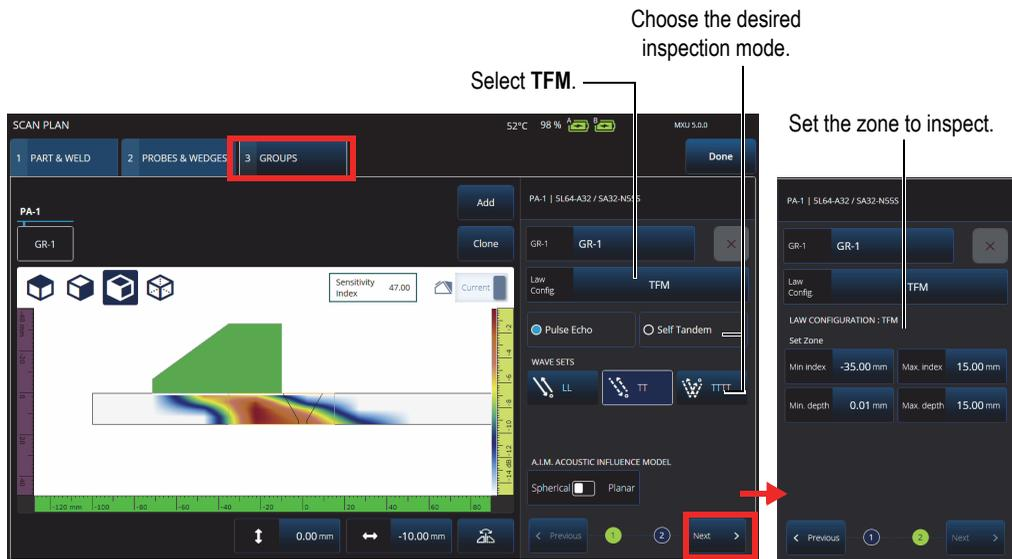

Figure 7-1 TFM on the Groups tab
3. On the **Groups** tab, select **Law Config.** > **TFM**, and complete your desired TFM law configuration (Figure 7-1 on page 131).
| Figure 7-1 | TFM on the Groups tab | 131 |